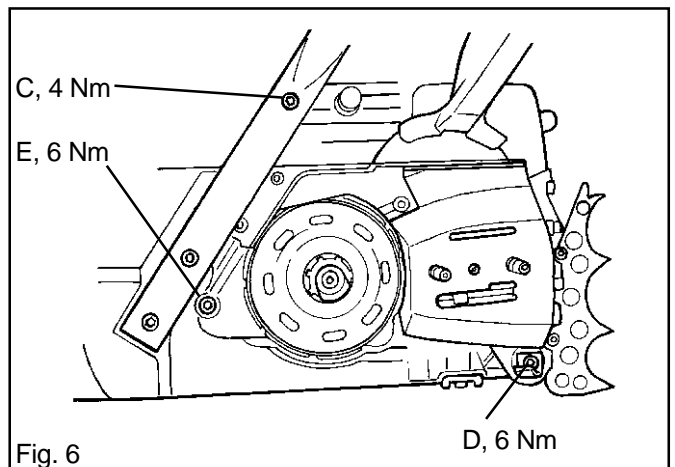

Fig. 6
9. Fit the bolts (C and D), chain catcher and travel limiter bolt (E) on the clutch side. See fig. 6. Tighten the bolts to the torque shown on the diagram.
Score marks on the piston. Fig. 6.